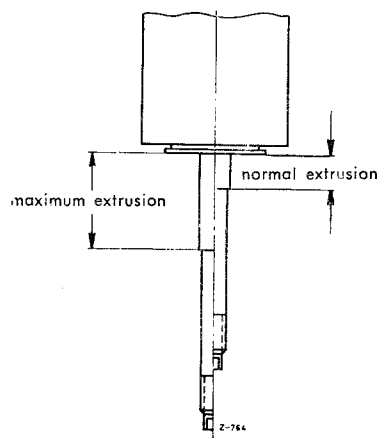

Fig. 32-1/4
4. If Bilstein shock absorbers lose oil, check the oil reserve. To do this depress the piston rod as far as the stop and measure the remaining length as far as the shoulder of the piston rod (Fig. 32-1/4). When this test is being made, the temperature of the shock absorber should be approx.  $+18$  to  $+20^{\circ}$  C.